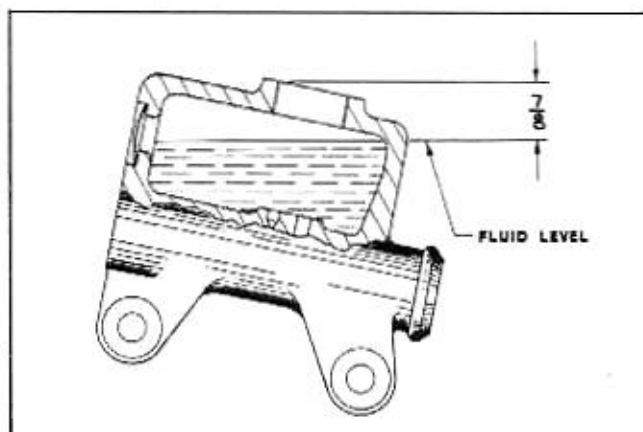

Fig. 5-5 Correct Level in Master Cylinder
The foot brake system requires a check for leaks at regular lubrication periods (see General Lubrication Section), and periodic inspection to see that there is more than 2" from the bottom of pedal pad to floor mat when brakes are applied (2" or less indicates need of adjustment). When the brakes are adjusted, the fluid level in the master cylinder should be checked and brought to  $\frac{7}{8}$ " from gasket surface on top of master cylinder filler neck as shown in Fig. 5-5. (Refer to page 5-12 for recommended brake fluid.)
8. Add sufficient brake fluid in the master cylinder to bring fluid level to within  $\frac{1}{8}$ " of top of gasket surface on filler neck (Fig. 5-5). Bleed brakes if necessary to get proper pedal reserve and remove "spongy pedal".
4. When bleeding operation is completed, refill reservoir to within  $\frac{1}{8}$ " of top of master cylinder filler neck gasket surface (Fig. 5-5) and then replace filler cap. Never attempt to clean fluid that has once been used (see CAUTION in Step 1 above). To avoid trouble and mistakes in the shop, used fluid should be thrown away.